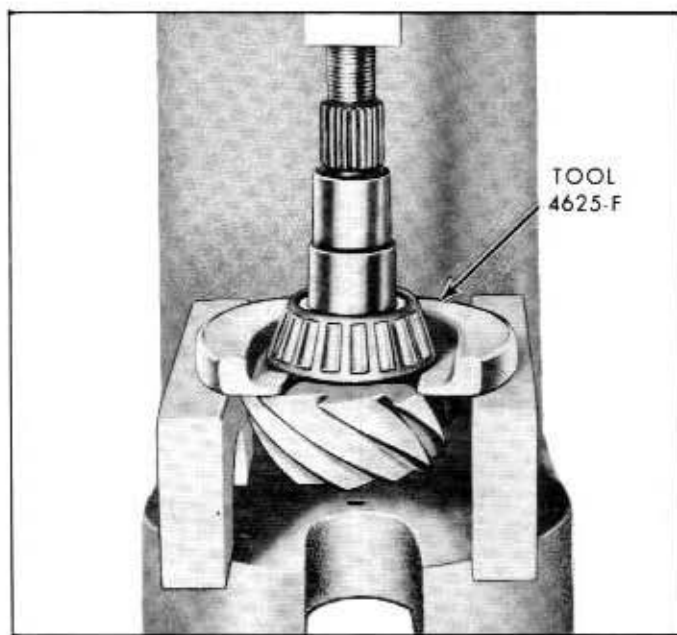

Fig. 4-24—Pinion Rear Bearing Cone Removal—(60C-5217)
17. Remove the pinion rear bearing cone with Tool 4625-F. See figure 4-24. Remove the pinion shim.